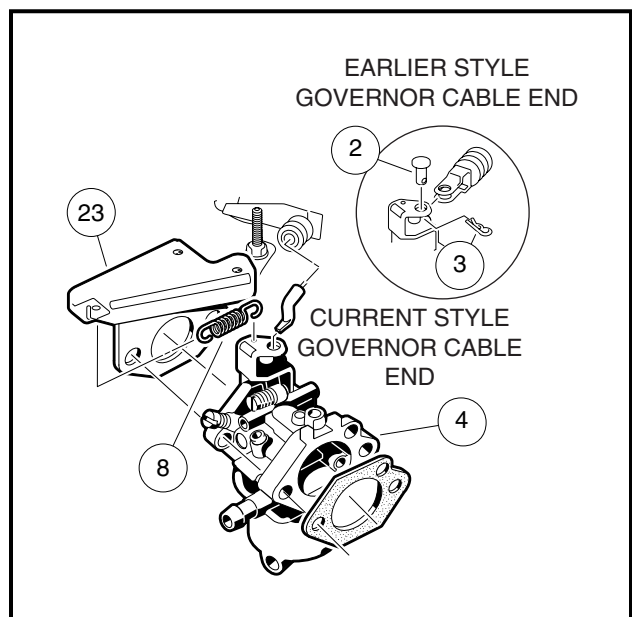

Figure 3-35 Governor Cable Connection
- 5.7. Tighten muffler clamp (6) to 40 in-lb (4.5 N·m).
6. Install carburetor (4), throttle spring (8) and the throttle spring bracket (23). Tighten to 50 in-lb (5.6 N·m) (**Figure 3-35, Page 3-19**).
- 8.1. Install governor cable clevis pin (9) through cable clevis and throttle valve lever and install a new cotter pin (10) (**Figure 3-35, Page 3-19**).
- 9.1. Install 'Z' shaped cable end into carburetor throttle valve lever (**Figure 3-35, Page 3-19**).